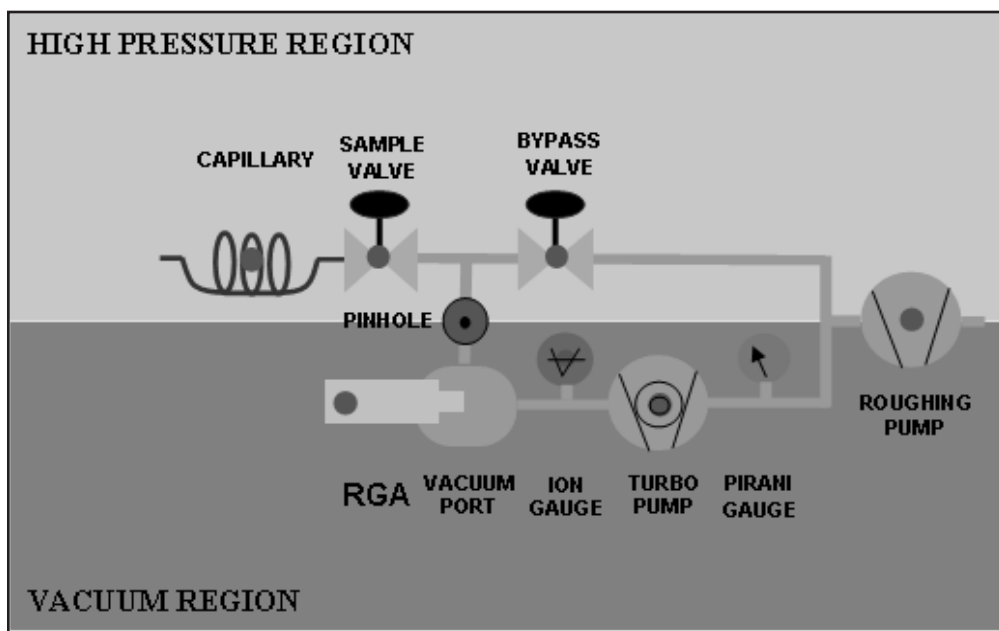

Figure 1-1. UGALT Schematic
The UGALT systems can be considered as two main subsystems: gas handling and the analyzer. The analyzer is the quadrupole mass spectrometer, which can only operate in high vacuum. The class of quadrupole mass spectrometer employed belongs to a class referred to as residual gas analyzers (RGA). These spectrometers specialize in large dynamic range measurements of light gases. The gas handling system consists of a pump and valves that deliver the sample gas to the analyzer. The UGALT employs single diaphragm pump (DP) for both subsystems. (see figure 1-1)